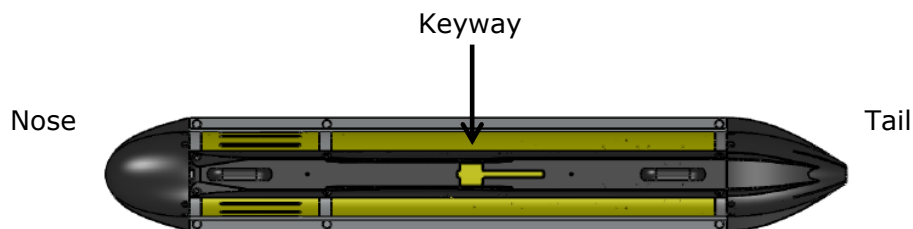

Figure 13: Top View of Mounting Bracket on Sonar Head
5. Orient the Mounting Bracket on top of the Sonar Processor so that the longest part of the keyway is pointing towards the tail section as shown in Figure 13.